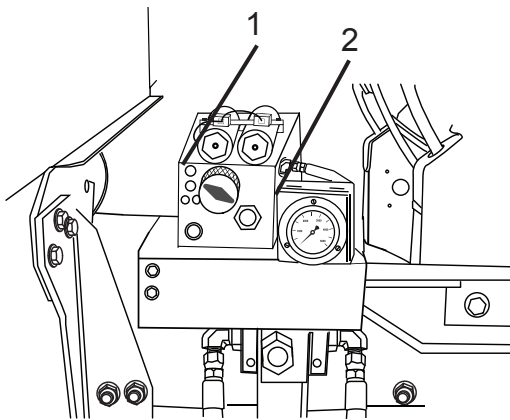

Figure 86
4. Turn the PRV knob (Figure 86, Item 1) all the way counterclockwise to minimize the pressure applied to the Bridgemaster axle when the drum is empty. Pressure will be displayed on the gauge (Figure 86, Item 2).